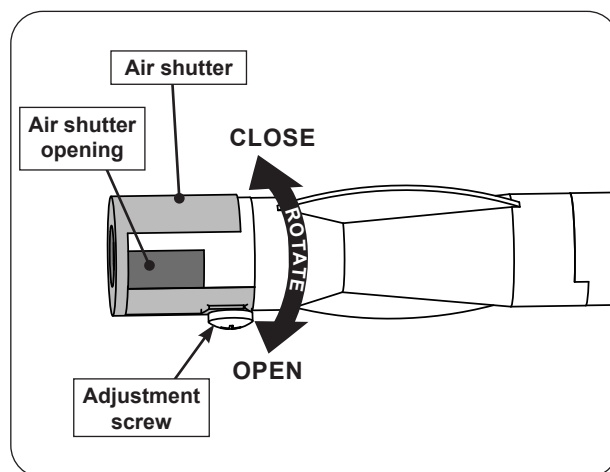

Fig. 37-2 Side burner air shutter adjustment detail
2. Loosen the adjustment screw with a screwdriver, then carefully rotate the shutter to open or close it. See Fig. 37-2 for details.